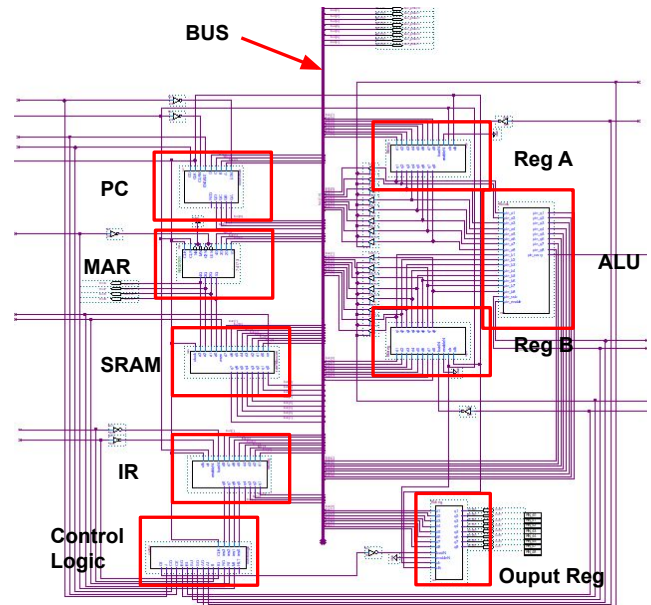

Figure 1: The overall view of the CPU
The CPU has one 4-bit program counter (PC), one 8-bit instruction register (IR), two 8-bit general register, one arithmetic logic unit (ALU), one memory address register (MAR), one output register and 16-byte static memory (SRAM). These components are all connected to an 8-bit bus. It also has a control logic module that issues control signals to all the components. The overall view of the CPU's schematic is shown in Figure 1.